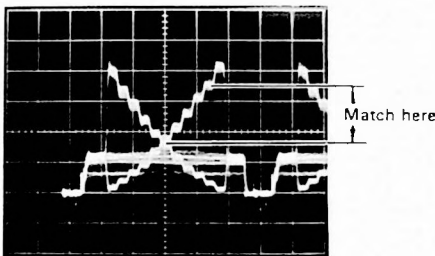

Fig. 4-4-43
- Adjust R. TRACKING-2 VR205 so that the R signal matches the YL signal in the 8th ~ 9th step of gray scale waveform. (Fig. 4-4-43)